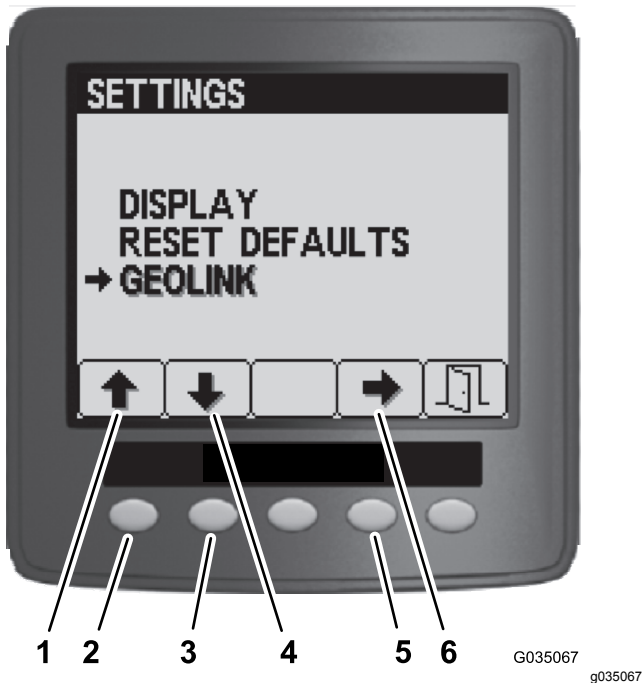

Figure 101
4. On the Settings menu, press button 1 or button 2 until the GeoLink option is highlighted, and press button 4 to navigate to the GeoLink menu (Figure 101).